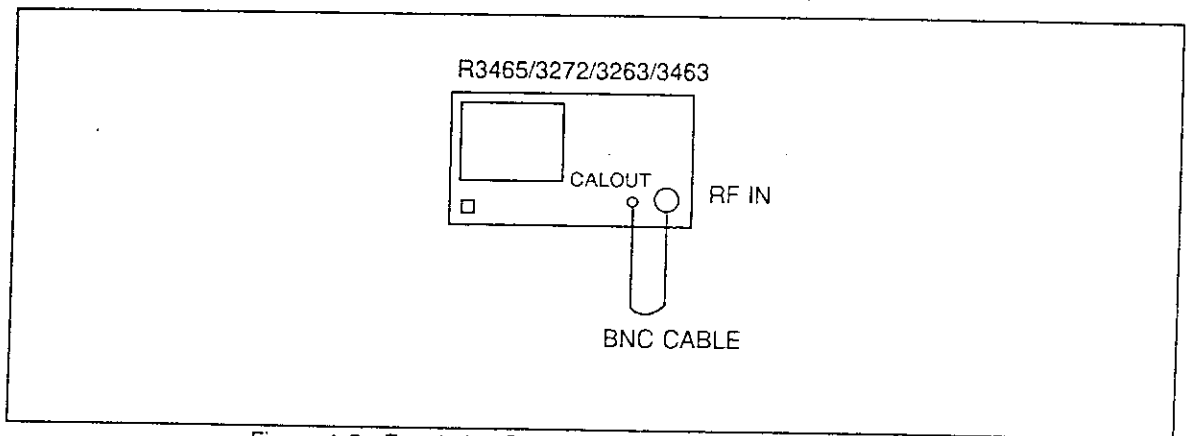

Figure 1-5 Resolution Bandwidth Accuracy/Selectivity Setup
(1) Connect the R3465/3272/3263/3463 CALOUT to the RF IN as shown in Figure 1-5.
(2) Press **SHIFT**, **PRESET** keys and set the controls as follows: